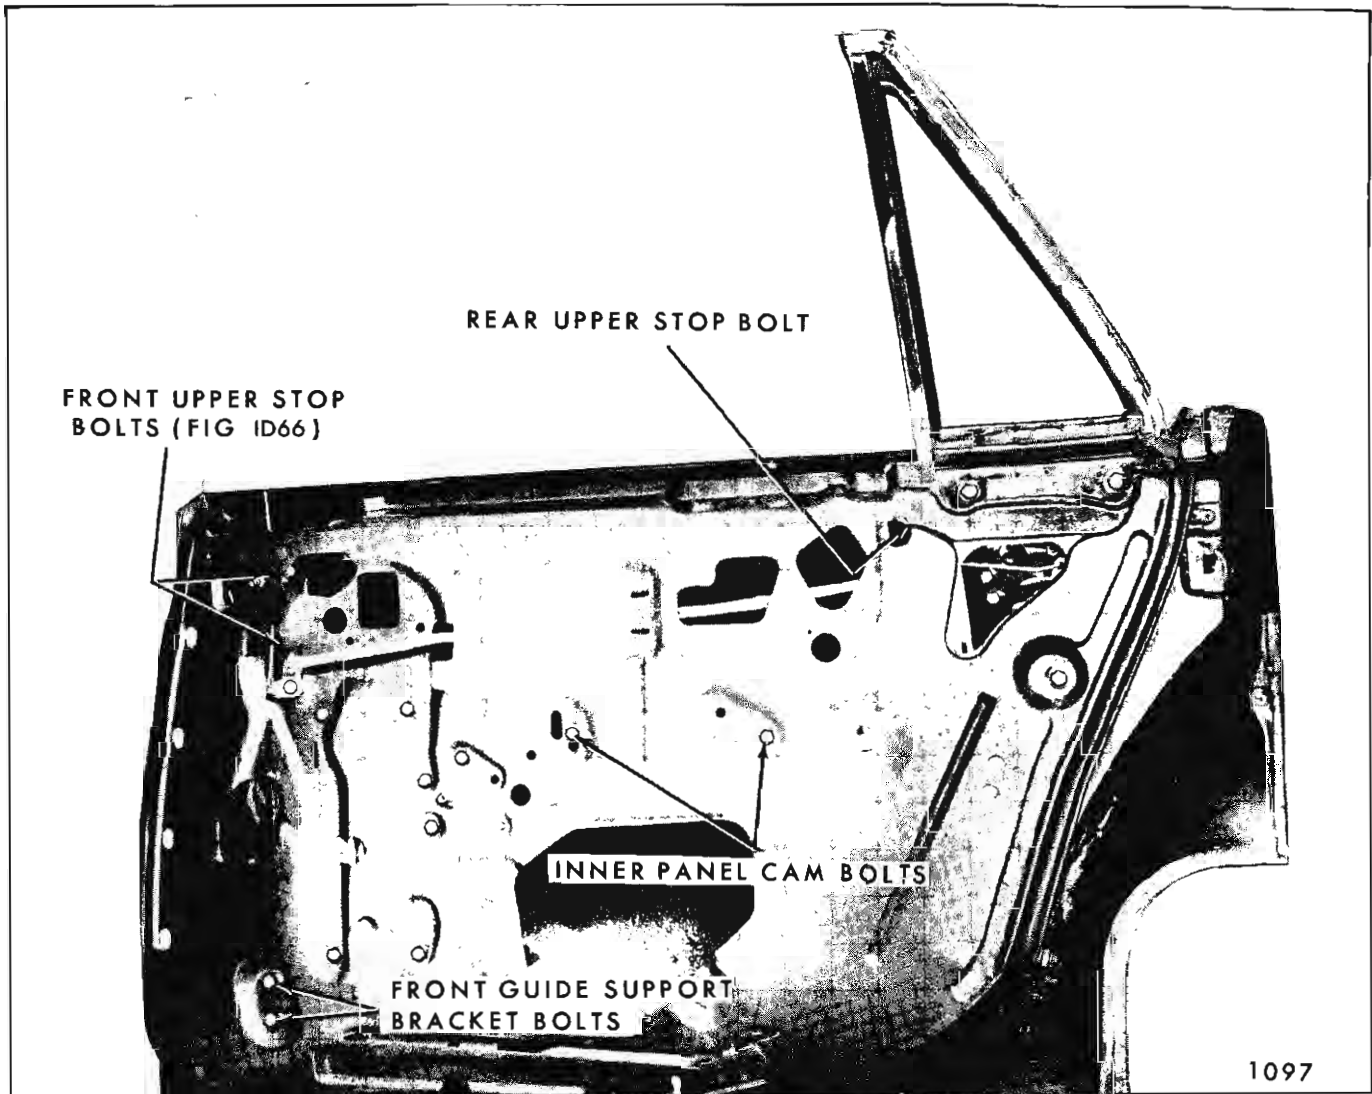

Fig. 1D65—Rear Door Window Removal - 68069 Style
3. Remove division pillar to ventilator stationary frame attaching screws (Fig. 1D69).
4. Remove division pillar to ventilator upper frame (and rubber bumper) attaching screw (Fig. 1D69) and separate ventilator frame and division channel.
6. Straighten division pillar weatherstrip bend-over tabs (Fig. 1D69) and remove weatherstrip.